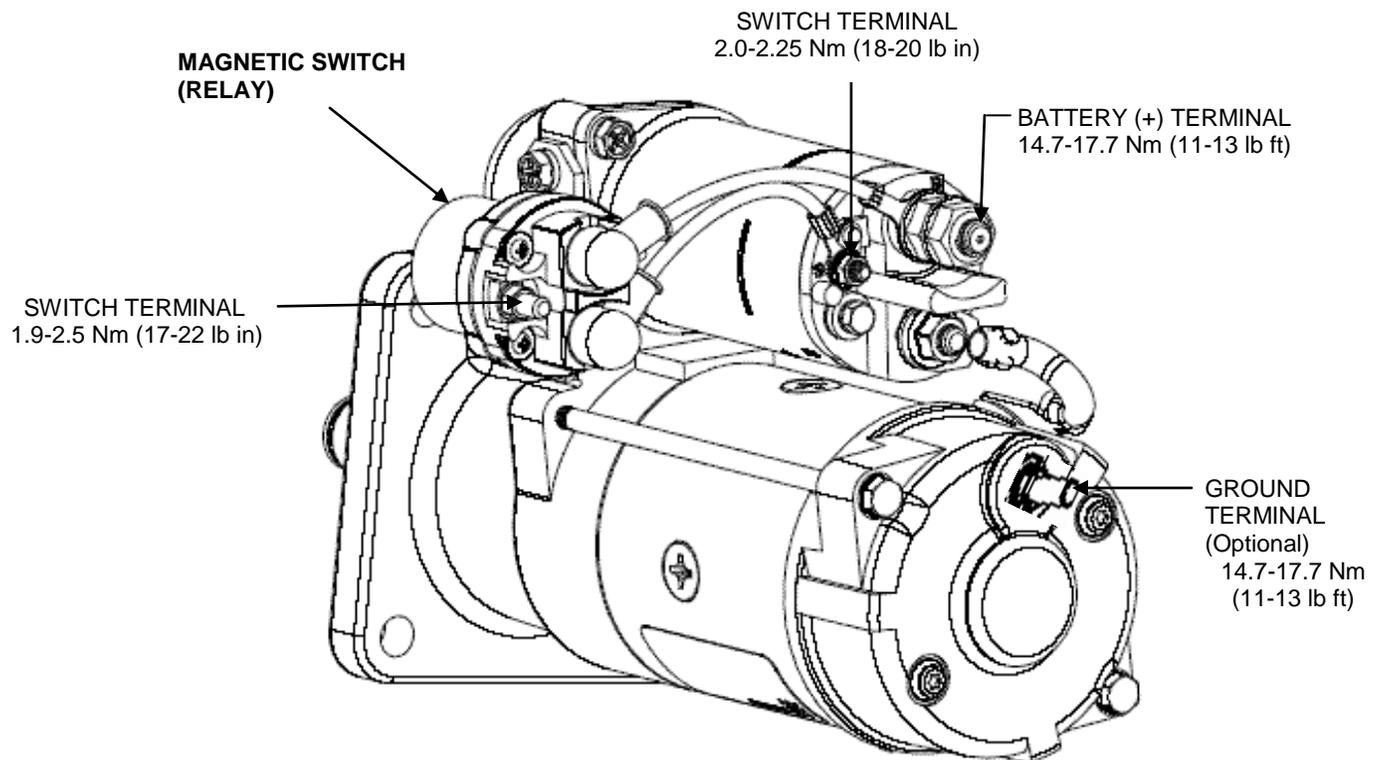

FIGURE 2 – MAGNETIC SWITCH (RELAY) ATTACHED
**INTEGRATED MAGNETIC SWITCH (IMS) REPOSITIONING** (Figure 2, page 2)
- ◆ Reinstall mounting screws and torque all fasteners according to values labeled in figure 2, page 2.